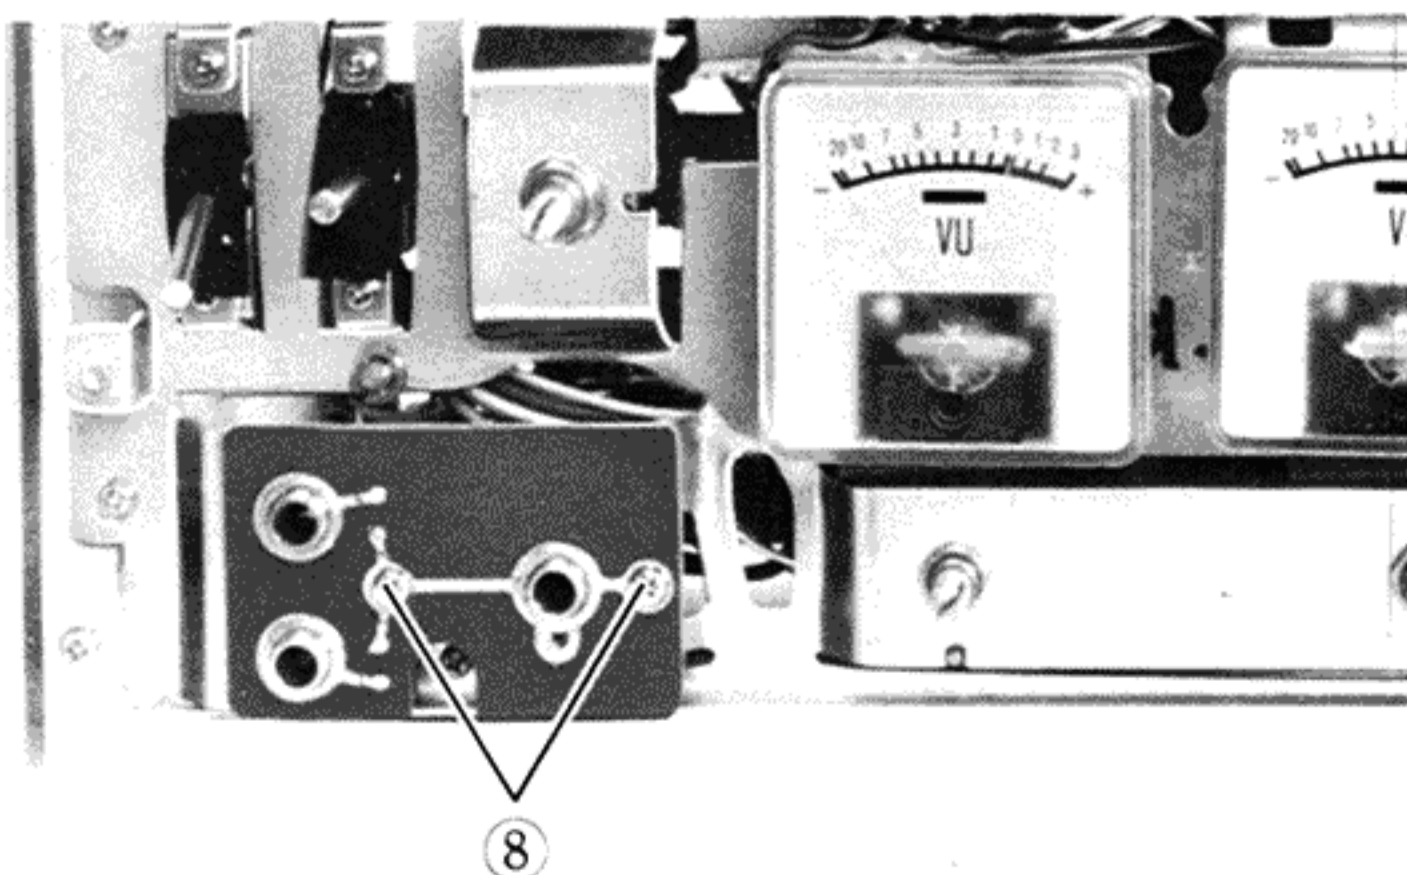

Fig. 10-5
- 5) Microphone jack circuit board (Fig. 10-5)